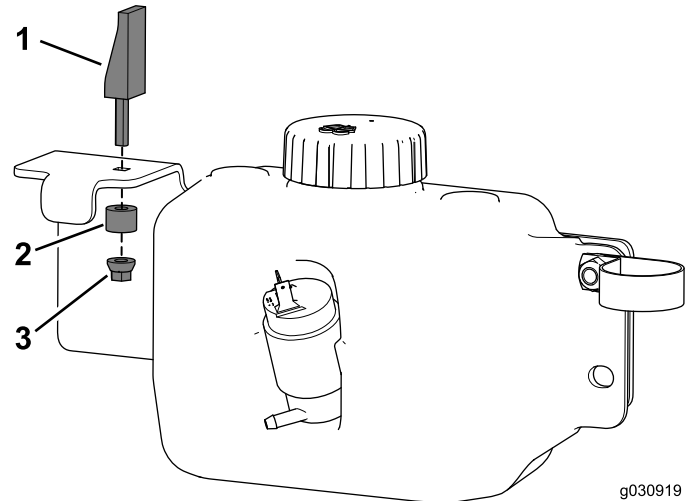

Figure 33
4. Install the swell latch assembly to the tank mount (Figure 33).